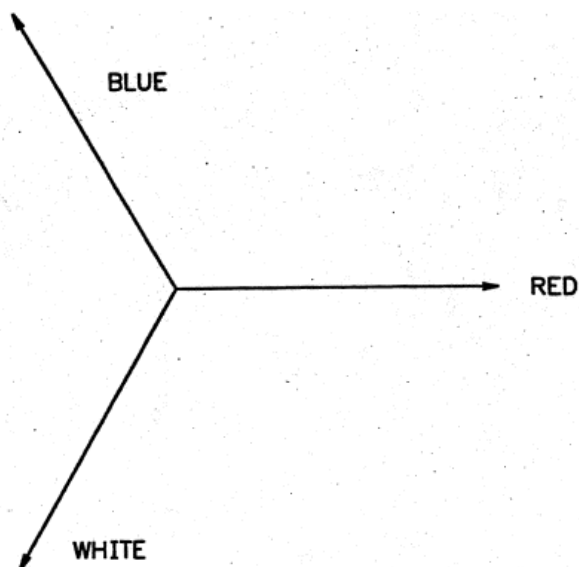

Figure 15 – Phasor diagram for a balanced circuit
42. Figure 15 shows a phasor diagram of a balanced circuit in which each of the line currents is 10 amps. Use graphical construction to show that the out of balance in the neutral would be zero.